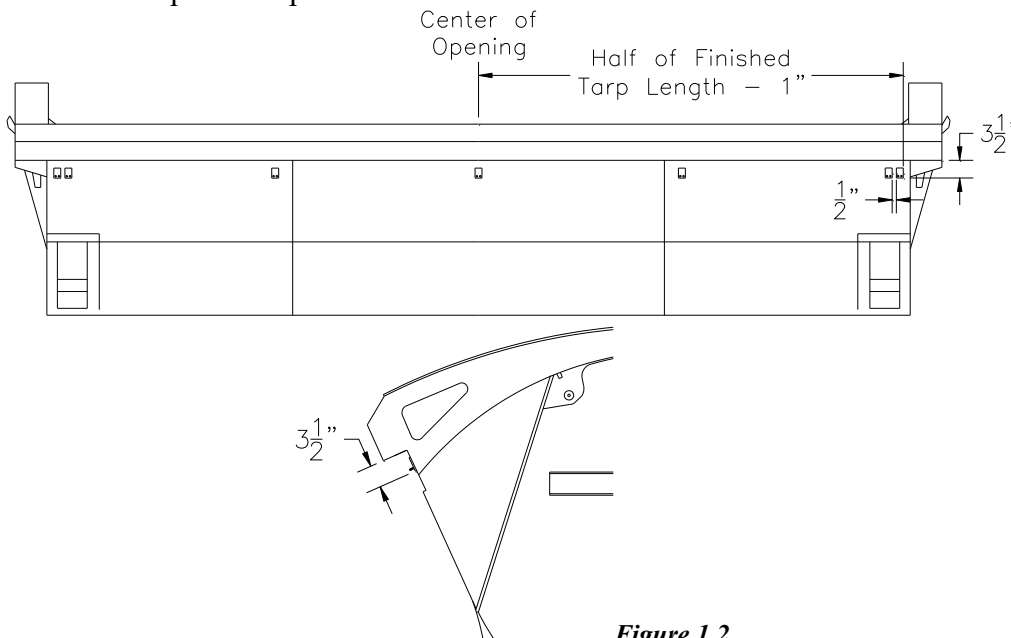

Figure 1.2
1. Refer to **Figure 1.2**. Layout the plate positions on the passenger-side of the tub. Mark the center of the opening of the box. Mark a location for the front and rear plates by going from the center of the box measuring half of the finished length of the tarp minus 1" and 3 1/2" down from the side rail. The bottom of the quick release plate is 3 1/2" down from the side rail.